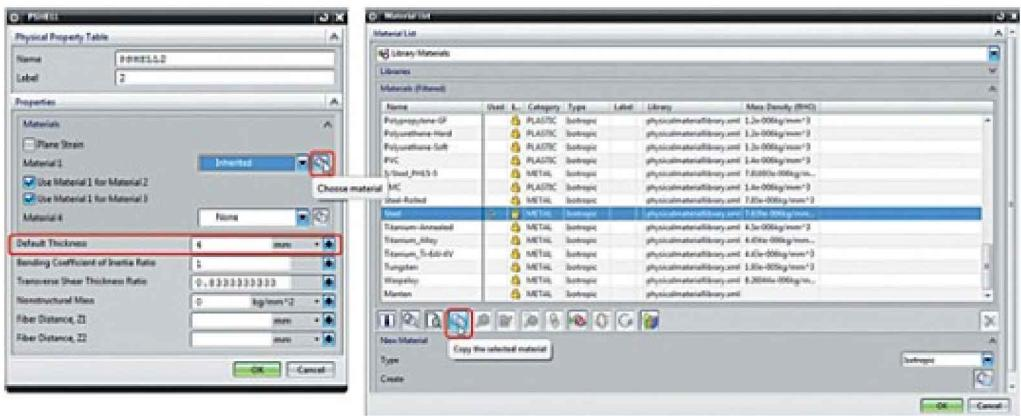

Figure 2.17. Specifying physical properties
- Under *Material 1*, click *Choose material*. In the *Material List* dialog box, select *Steel* material and click *Copy the selected material* (Figure 2.17).